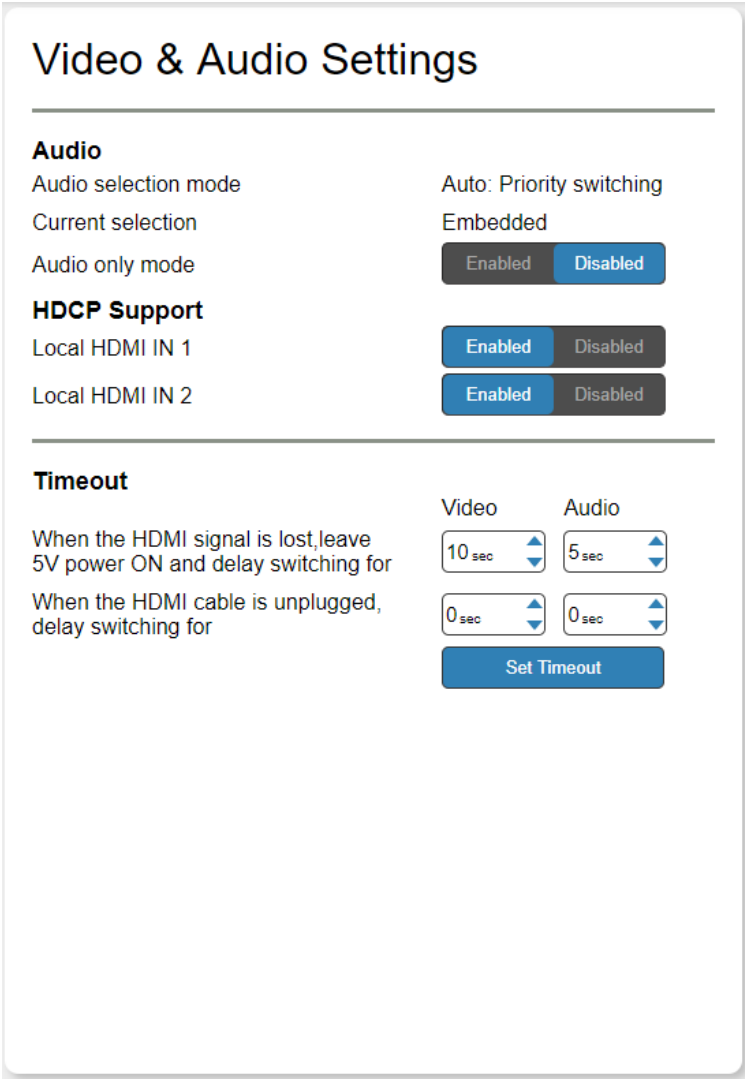

Figure 28: Video & Audio Settings Page
1. In the Navigation pane, click **Video & Audio Settings**. The Video & Audio Settings page appears (see Figure 28).
1. In the Navigation pane, click **Video & Audio Settings**. The Video & Audio page appears (see Figure 28).
1. In the Navigation pane, click **Video and Audio Settings**. The Video & Audio Settings page appears (see Figure 28).